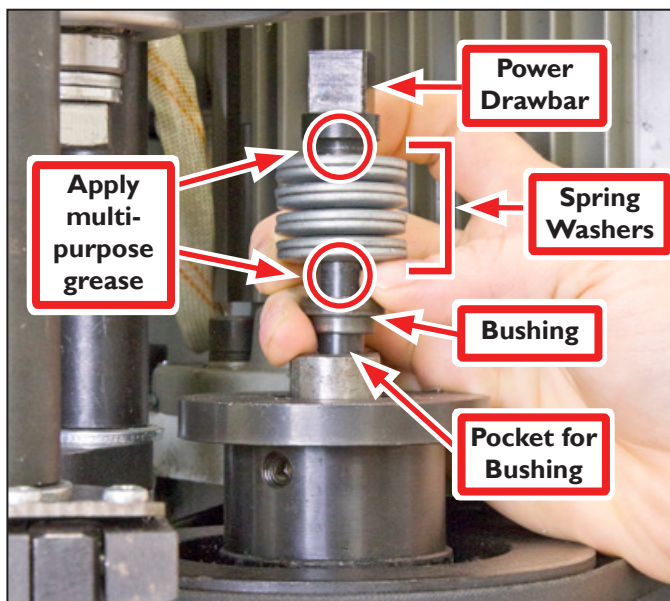
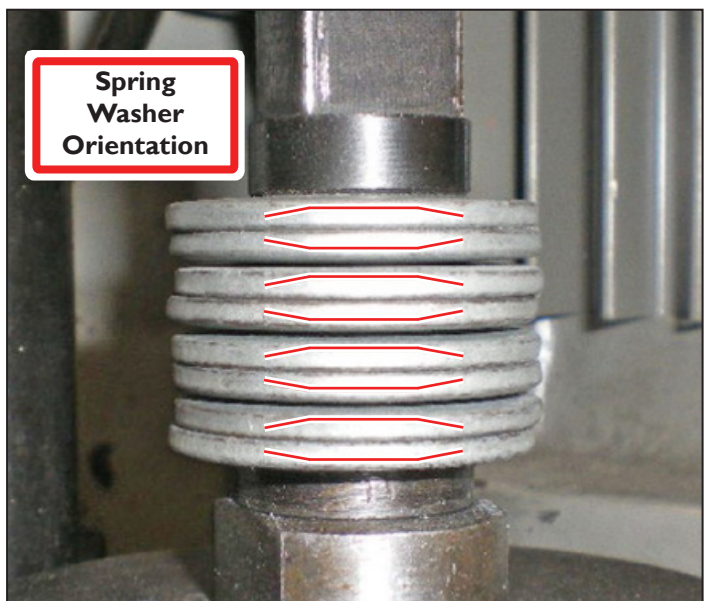

Figure 8
Figure 9
3. Put the Power Drawbar, Spring Washers and Drawbar Bushing (see **Figure 8**). Insert an empty Tormach Tooling System (TTS)[®] collet into the spindle and thread in the Power Drawbar. Hand tighten the Power Drawbar. Then, insert a TTS tool holder into the collet and, with the wrench, tighten the Power Drawbar two turns.
4. Put multi-purpose grease to the areas shown in **Figure 8**.
NOTE: Some older machines will not use the included bushing because they don't have the pocket as indicated in **Figure 8**. See **Figure 9** for proper spring washer orientation.